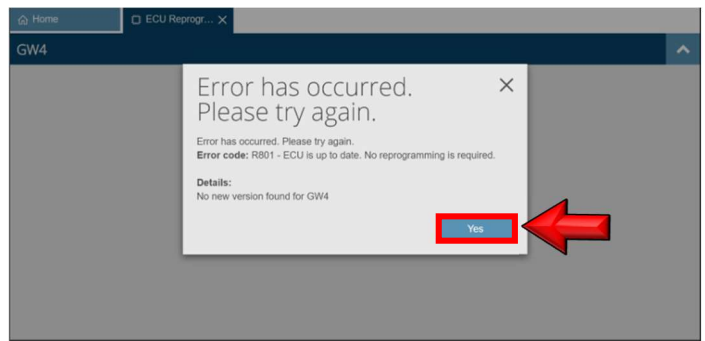
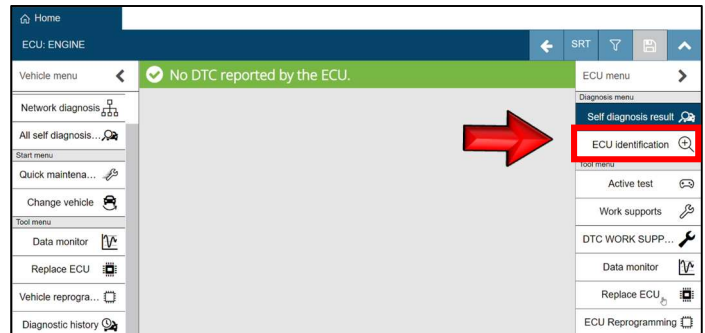

Figure 12
Figure 13
12. Error code R801 indicates no reprogramming is available, select **Yes** (Figure 12), and then select **ECU identification** (Figure 13) in **ENGINE**.